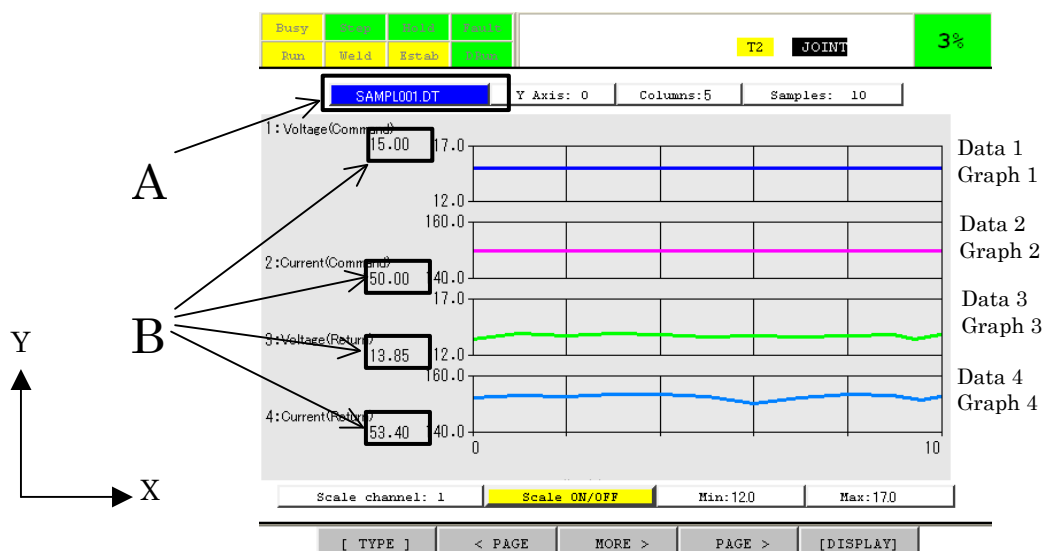

Fig. 9.39.4 Data Monitor Chart screen
- 6 The file name of the monitor report is displayed on Fig 9.39.4 A. When the cursor is moved to A and ENTER key is pressed, file select screen is displayed and the user can select the [.DT] file in other memory.
- 7 In Fig 9.39.4 B, newer value of the Y direction of each graph is displayed.